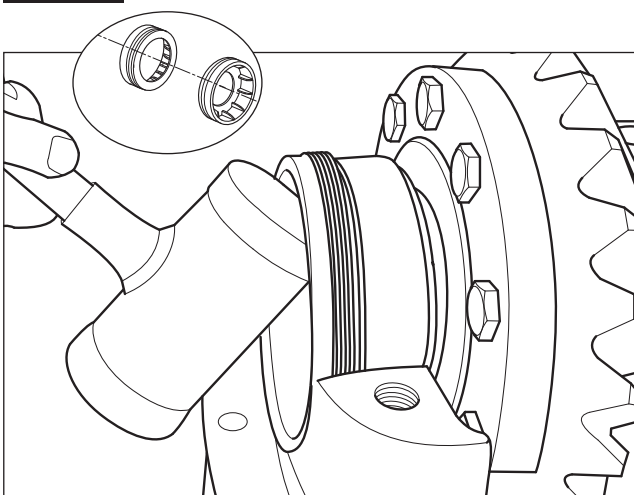

Fig. 2.11
11. Remove the right and left bearing adjusting rings from the carrier. (Fig.2.11)